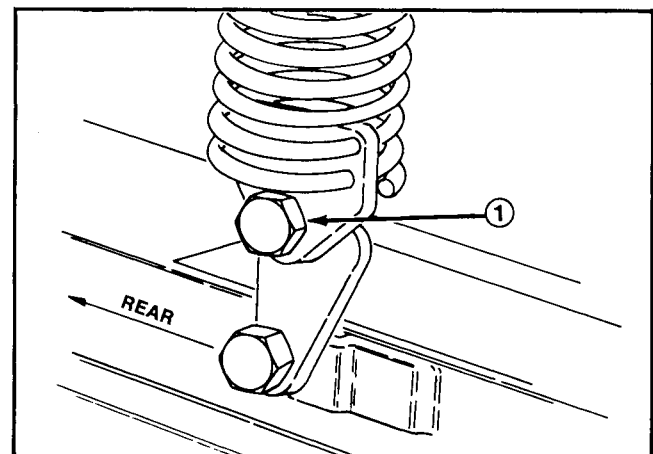

Figure 12
3. Position the knee link mount hole to the rear and toward the outside of the cutter deck. Then, attach the knee link to the lower spring end with a shoulder bolt, flatwasher and locknut (Fig. 12, 13).
4. Insert a shoulder bolt through the knee link and install a flatwasher. Install the assembly into the deck bracket hole and secure to the deck with a locknut (Fig. 12, 13).